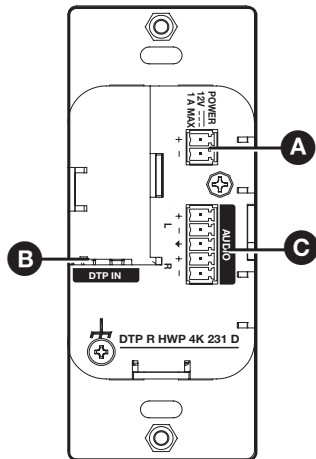

Figure 5. DTP R HWP 4K 231 and 331 D Rear Panel Connectors
8. Connect the cables to the rear of the unit (see figure 5 on page 8 for connector details).